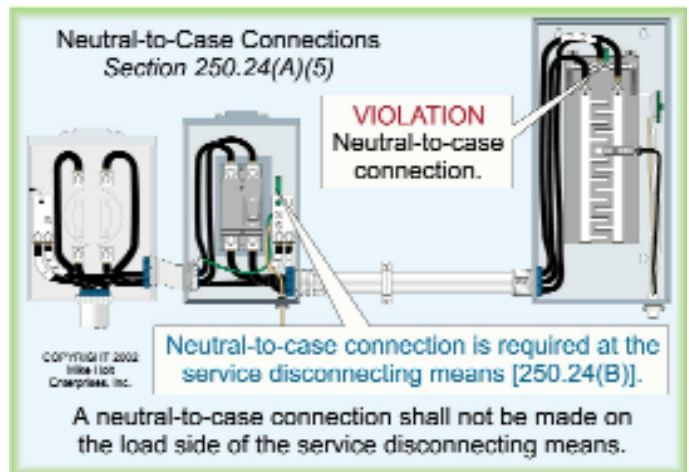

Figure 250-54
(5) **Load-Side Bonding Connections.** A neutral-to-case bond shall not be made on the load side of the service disconnecting means, except as permitted in 250.30(A)(1) for separately derived systems, 250.32(B)(2) for separate buildings, or 250.142(B) Ex. 2 for meter enclosures. Figure 250-54